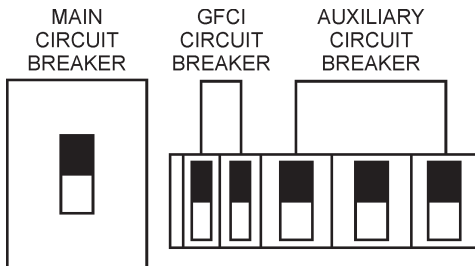

Figure 52. Main, Aux. and GFCI Circuit Breakers (ON)
- Place the **main, GFCI, and aux.** circuit breakers in the **ON** position (Figure 52).